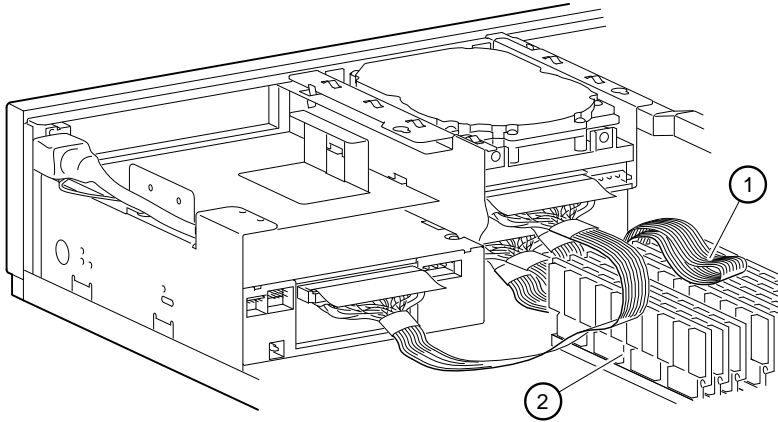

Figure 3-17. Drive Bracket Cable Routing
Figure 3-17 shows how the drive cables ① are routed over the SIMMs ②.